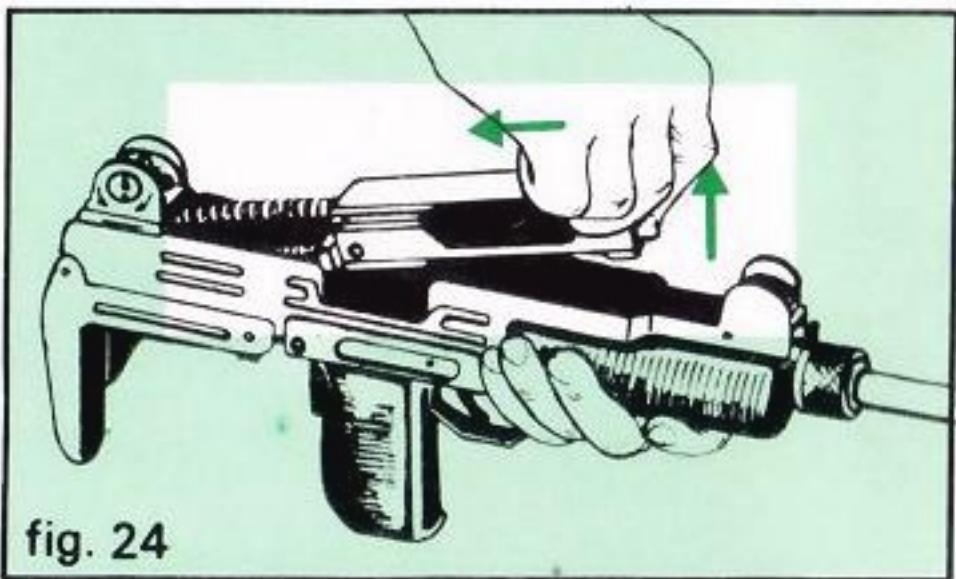

fig. 24
1. Lift the bolt up about 1", press backward about 1/2" and lift bolt and striker assembly out and forward. (fig. 24).